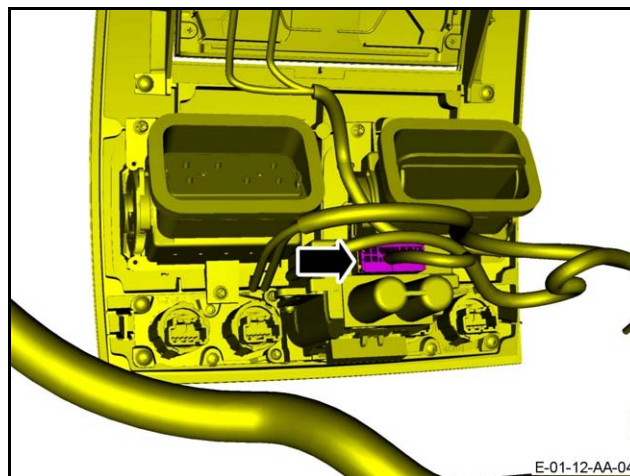

Figure 8
11. Connect the electrical connector to ignition start/stop switch (refer to Figure 8).